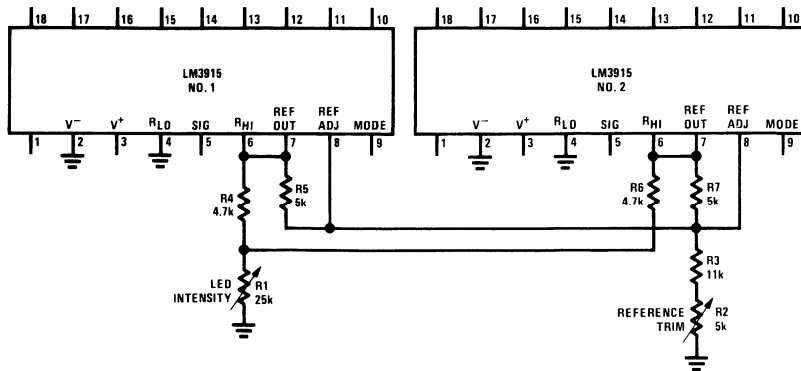

FIGURE 9. Independent Adjustment of Reference Voltage and LED Intensity for Multiple LM3915s
*Figure 9* shows how to obtain a common reference trim and intensity control for two LM3915s. The two ICs may be connected in cascade for a 60 dB display or may be handling separate channels for stereo. This technique can be extended for larger numbers of LM3915s by varying the values of R1, R2 and R3 in inverse proportion to the number of devices tied in. The ICs' internal references track within 100 mV so that that worst case error from chip to chip is only 0.1 dB for  $V_{REF} = 10V$ .